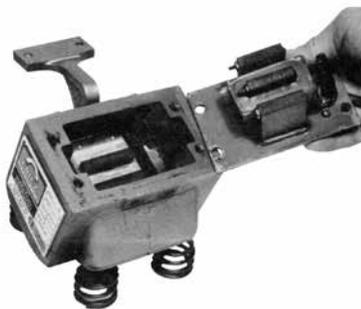

FIGURE 8
2. Remove the bolts securing the electrical assembly plate to the body casting and lift the entire electrical assembly out of the body cavity. (See Figure 8).